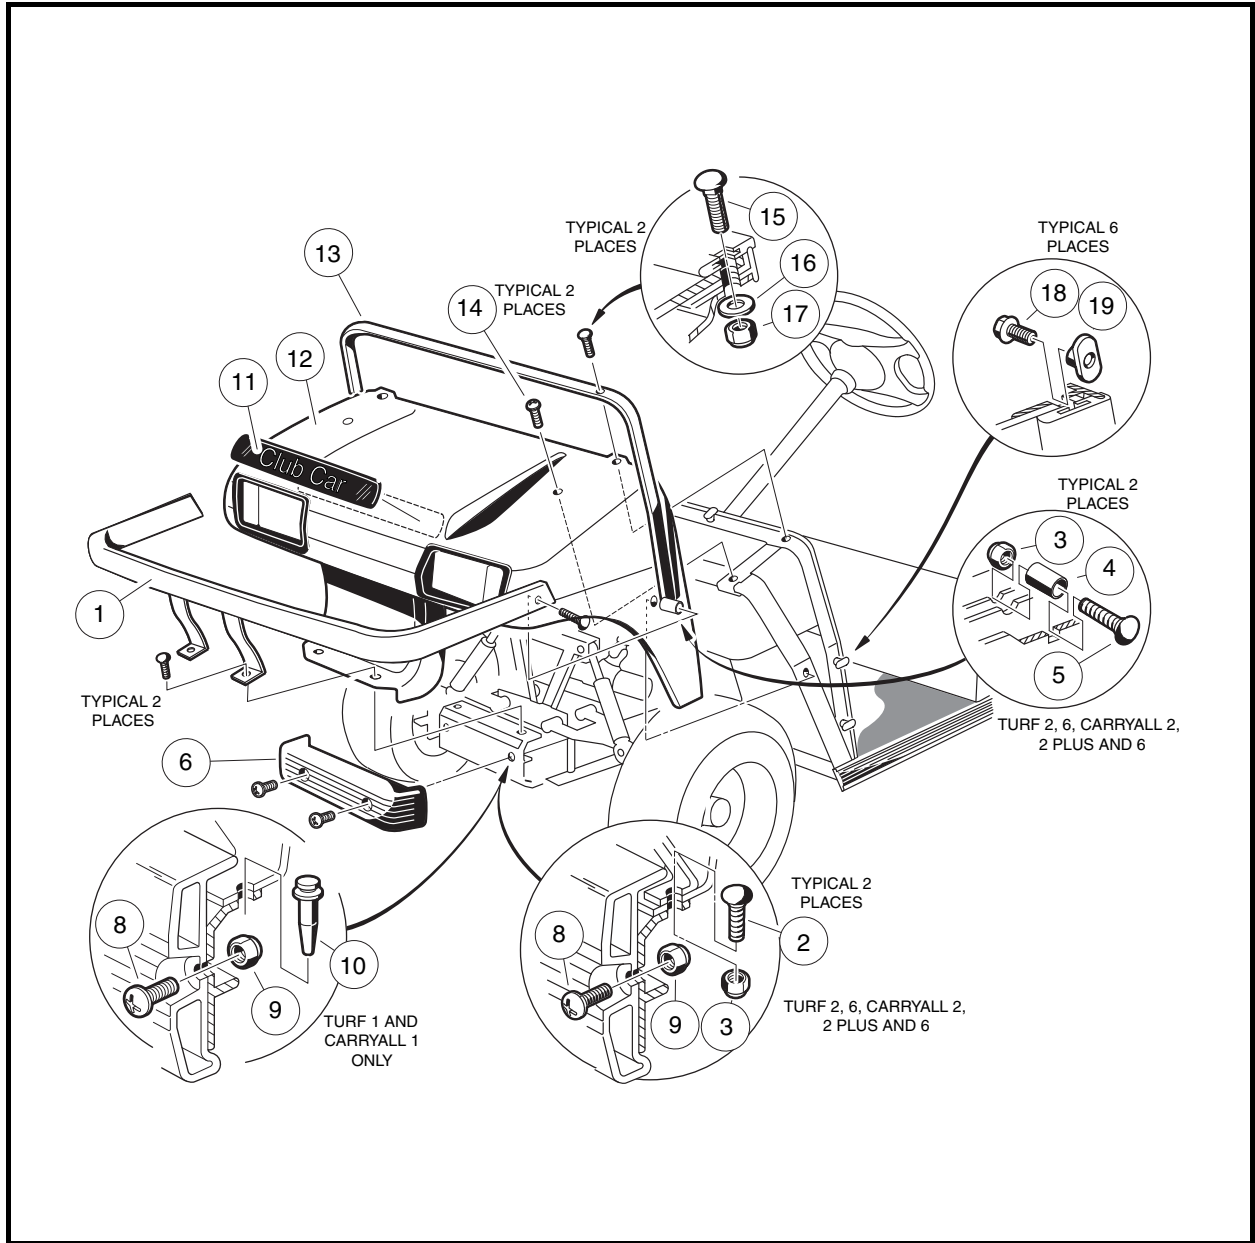

Figure 4-1 Front Body Assembly
1. Remove screws (8) and lock nuts (9) and lift front bumper (6) from vehicle frame (**Figure 4-1, Page 4-5**).
1. Install front body (12) under trim (13), align holes and finger-tighten screws (14) holding front body against frame (**Figure 4-1, Page 4-5**).
2. Install carriage bolts (15), washers (16), and lock nuts (17) onto front body trim. Tighten bolts to 11 ft-lb (14.9 N·m). Tighten screws (14) to 20 in-lb (2.3 N·m). **See following NOTE.**
**NOTE:** *If installing a new front body, two 5/16-inch holes must be drilled after the body has been placed on the vehicle. Use the body trim (13) as a guide for drilling the holes.*
3. Tighten screws (18) holding front body trim against front body to 17 in-lb (1.9 N·m).
- 5.1. Install two carriage bolts (2) and lock nuts (3) from the heavy-duty front bumper support braces and install bumper (1). Tighten bolts to 65 in-lb (7.3 N·m) (**Figure 4-1, Page 4-5**).
- 5.2. Install two carriage bolts (5), spacers (4), and lock nuts (3) into heavy-duty bumper mounting positions located on sides of front body (12). Tighten bolts to 65 in-lb (7.3 N·m).
6. **Turf 1 and Carryall 1 vehicles:** Install two push type blind rivets (10) that secure lower front body to frame (**Figure 4-1, Page 4-5**).
7. Install front bumper onto vehicle and install screws (8) and lock nuts (9). Tighten to 65 in-lb (7.3 N·m).